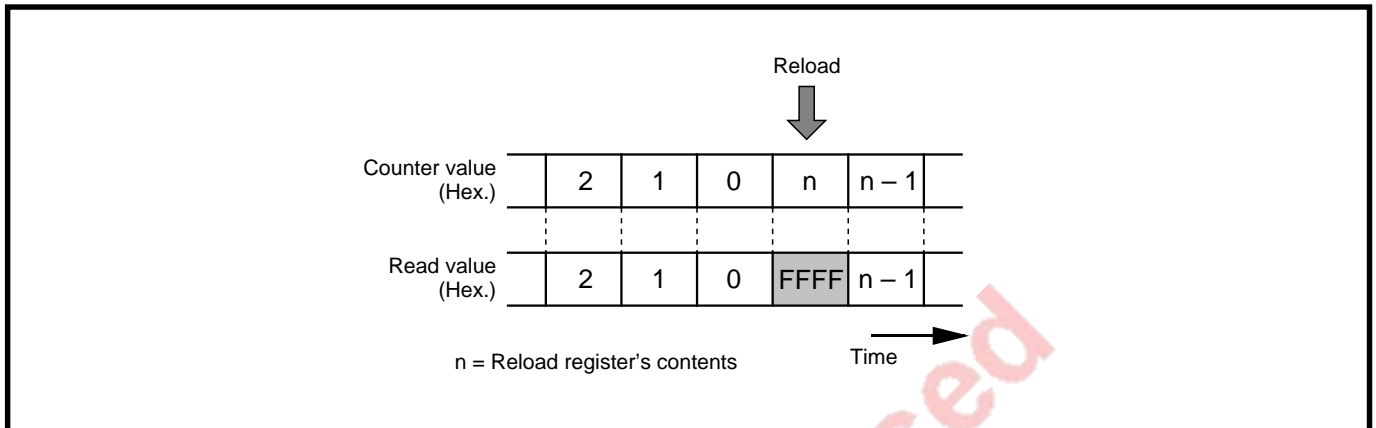

Fig. 7.6.5 Timer B2 register read out
1. While counting is in progress, by reading out the timer B2 register, the counter value can be read at an arbitrary timing. However, when reading is performed at the reload timing shown in Figure 7.6.5, value "FFFF16" is read out. If reading is performed in the period from when a value is set into the timer B2 register with the counter stopped until the counter starts counting, the set value is correctly read out.